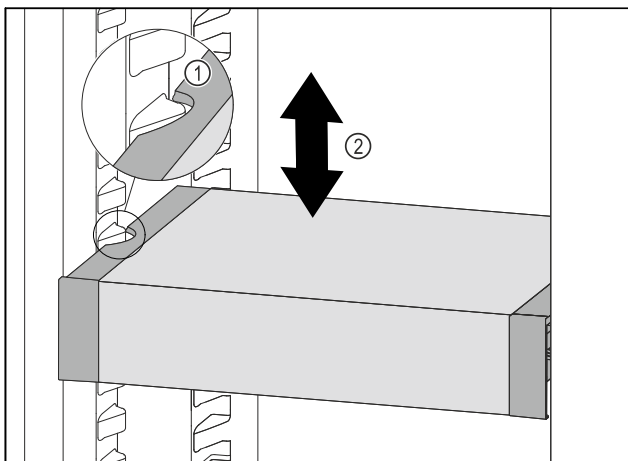

Fig. 127
- ▶ Pull VarioSafe forwards until the recesses in the side of the VarioSafe are at the level of the support rib in the refrigerator compartment. Fig. 127 (1)
- ▶ Move VarioSafe up or down in the refrigerator compartment until the desired height is reached. Fig. 127 (2)